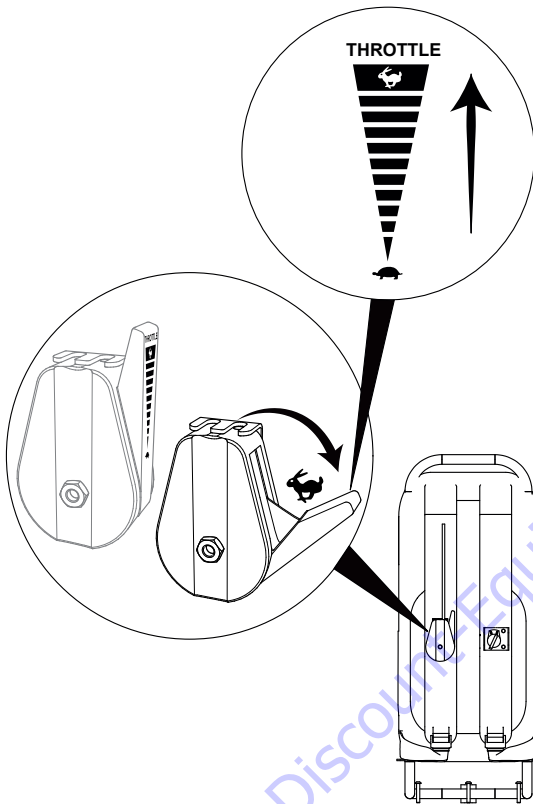

Figure 18. Throttle Lever (Fast/Rabbit Position)
2. Place the throttle lever in the **DOWN** position (**RABBIT**) for normal (**FAST**) engine operation (Figure 18).